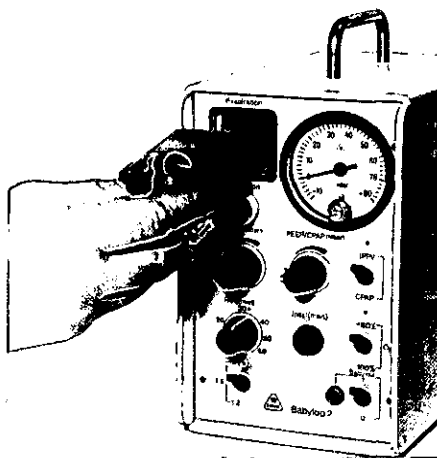

Fig. 8 Inserting valve cover
- Insert valve cover with diaphragm into Babylog 2 (Fig. 8).